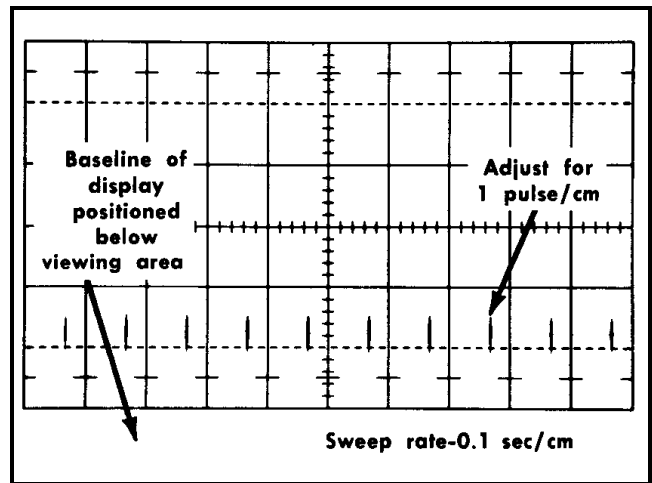

Fig. 5-50. Test oscilloscope display for setting triggering pulse repetition rate to 10 cps.
f. Adjust the pretrigger pulse generator Repetition Rate control for 1 pulse/cm in the test oscilloscope display (see Fig. 5-50). This sets the repetition rate at 10cps.